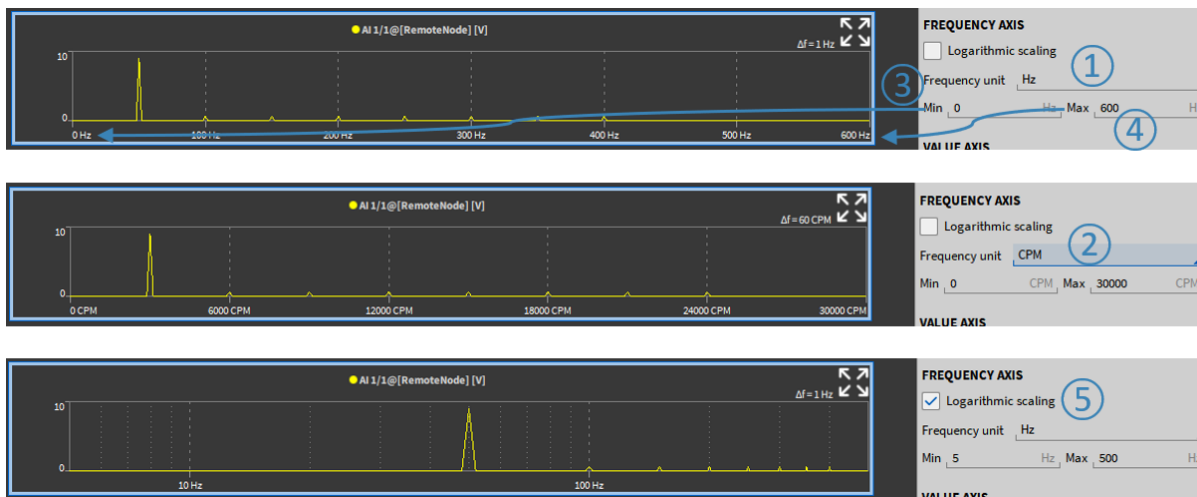

Fig. 8.51: Frequency axis settings
The unit of the X-axis is Hertz [Hz] per default (see ① in Fig. 8.51). The unit can be changed to Cycles Per Minute [CPM] which is defined as [Hz] \* 60 (see ② in Fig. 8.51). The axis' minimum can be freely defined (see ③ and ④ in Fig. 8.51). The scaling can optionally be set from linear to logarithmic scaling (see ⑤ in Fig. 8.51).